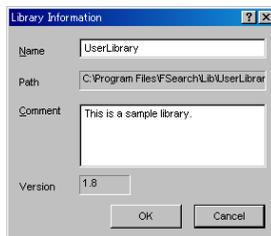

Fig. 5-28 Entering information for a new library
From the menu bar, select [Library] - [Create...]. Enter a filename for the new library, and click [Save]. Enter information in the dialog box - Fig. 5-28, and select [OK]. The information entered in this library can be edited any time by going to [Library] - [Edit library Header...]. Once a library has been created, it remains active.
- (3) The analytical conditions can be edited by selecting [Edit Default...] see Fig. 5-28.